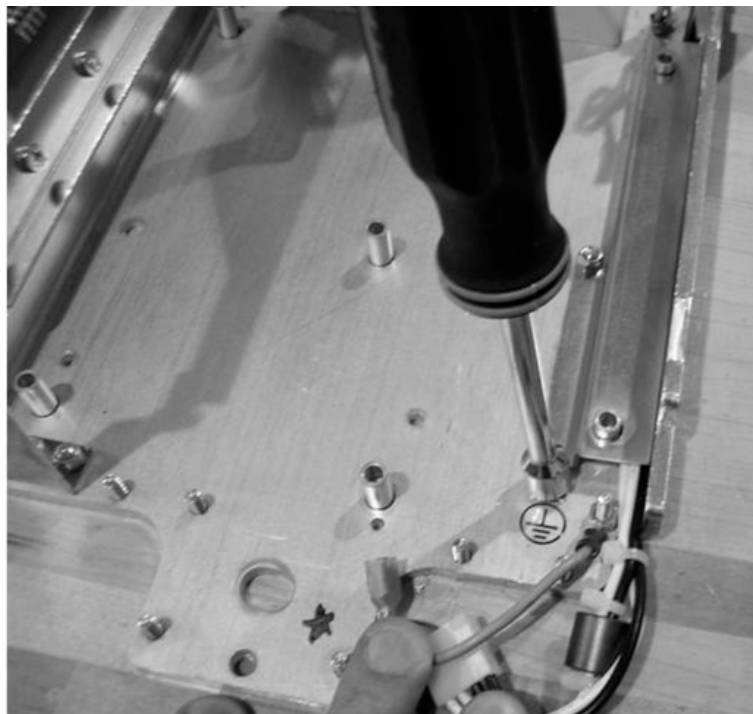

Figure 10: Replacing the Power Switch Harness Shield
14. Use a 7 mm nut driver to replace the nuts that hold the Power Switch Harness Shield as shown on Figure 10.